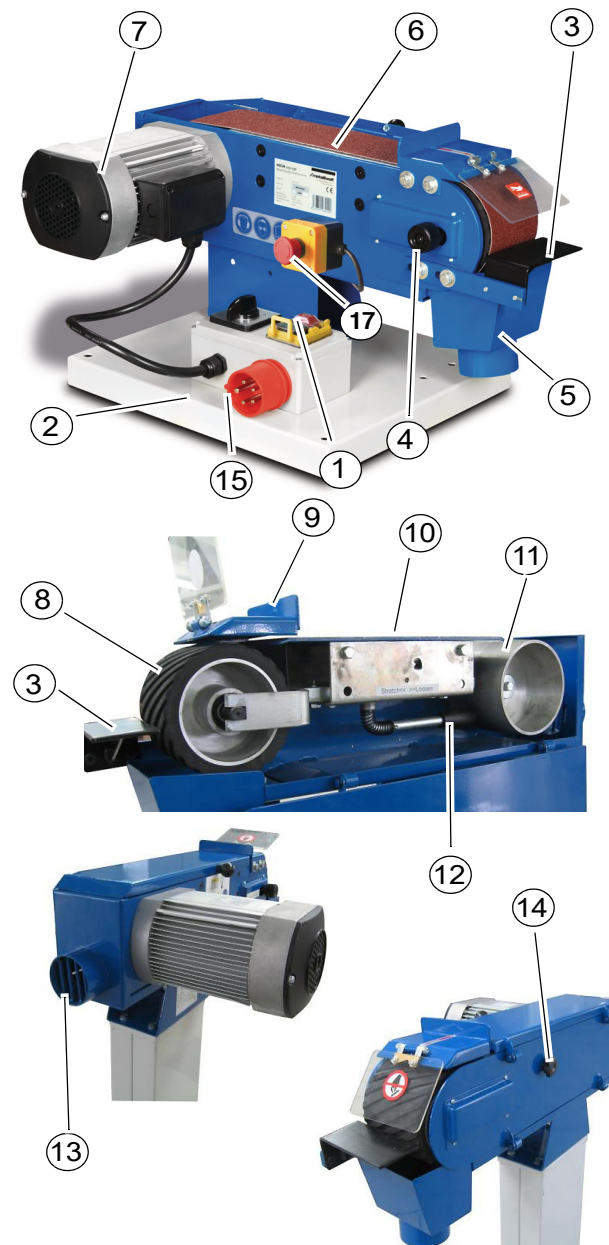

Fig. 4: Description of the device
Loosen the fixing screw pos.14 on picture 4 and fold the side cover completely open. Loosen the tension of the sanding belt via the tension lever Pos.12 on figure 4. Carefully pull off the old sanding belt. Tighten the new sanding belt and align it. Finally, tighten the sanding belt over the tension lever and close the side cover.
Check that the workpiece stop Pos. 9 in figure 4 is correctly mounted and tightened. Open the hinged cover Pos. 6 on figure 4. Switch on the belt sander and carefully press the workpiece with both hands against the sanding belt and the safety stop. For better material removal and even belt wear, the workpiece can be easily moved back and forth.
On the chip box Pos. 5 (Figure 4) and the back of the belt grinder Pos. 13 (Figure 4) is 73 mm Ø connecting piece for connection to an extraction system.
Empty the spark arrester regularly and check whether the suction channel has to be cleaned. If the edges of the contact wheel are rounded or the surface is damaged, replace the contact wheel immediately. Replace the graphite sanding pad Pos.10 (Figure 4) on the plant table depending on the degree of wear.